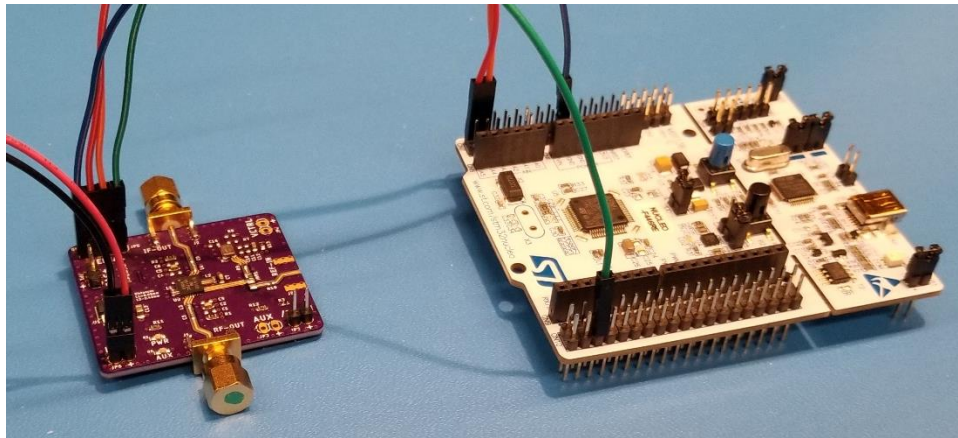

Figure 1: Si4123 eval board left, NUCLEO-F446RE dev board right
The Silicon Labs Si41xx synthesizer family is available in five variations with up to three synthesizers. However, RF1 and RF2 share an output. See the end of this document for supplemental information, datasheets, and GitHub repos with EAGLE CAD files of the Si4123 evaluation board; Figure 1 shown above.
2. **ATTENTION:** Connect the Si41xx board to power. The **Si4123 evaluation board** show in **Figure 1** above accepts **~3.5V to 10V max** due to incorporating a LDO regulator; the TI LP38692 3.3V fixed LDO. The **Si41xx IC operates within 2.7V to 3.6V**; however, a TCXO on the evaluation board may have strict voltage requirements.